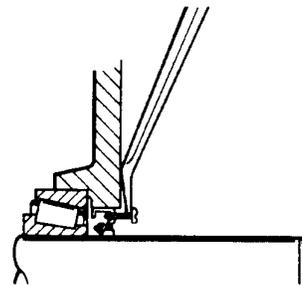

Figure 1B
- 2. Insert two #10-.750" sheet metal screws into the seal leaving .500" of the screw protruding above the seal face. DO NOT drive the screw more than .250" beyond seal face or bearing damage may occur. Use a claw type pry bar under the screw head as shown in Figure 1B and lift the seal out. Remove all chips. Use a magnet to remove the chips that fall into the bore. Remove Permatex from the seal cage bore.